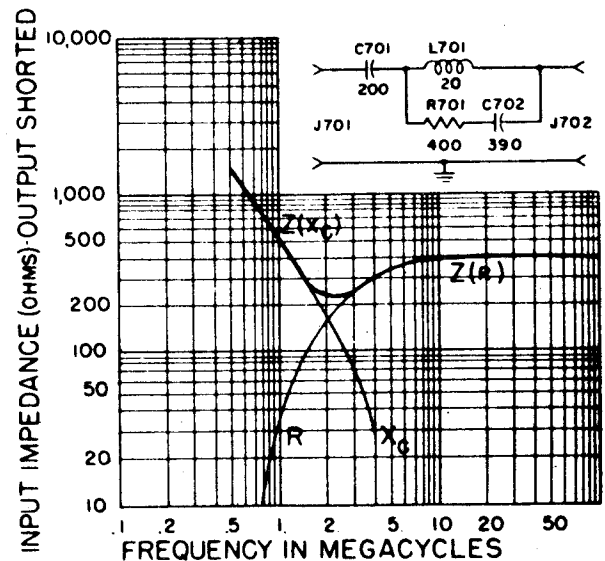

Figure 4-8. Schematic Diagram of the Antenna Simulator SM-35/URM-25 with Input Impedance Frequency Curve
(See figure 4-8).
c. It can be seen from figure 4-8 that the minimum impedance of the antenna simulator will be approximately 220 ohms at 2 mc. This impedance becomes much higher at lower frequencies and approaches 400 ohms at higher frequencies. In using the meter (M101) of the signal generator it should be realized that a 20 percent maximum error may be introduced at 2 megacycles. If greater meter accuracy is required when using the antenna simulator, the actual impedance of this unit should be calculated from figure 4-8 at the frequency, selected.
d. From the impedance curve (figure 4-8), it can be seen that the minimum impedance of the antenna simulator will be approximately 220 ohms. When using this unit, first connect one end of the Impedance Adapter MX-1487/URM-25D to the output cable (W104) and plug the other end of W104 into J102 on the signal generator. Using the auxiliary cable (W105), connect the antenna simulator to the impedance adapter. If necessary, the second auxiliary cable (W106) may then be used to connect the antenna simulator to the receiver under test.
is 20 mc, it can be seen from figure 4-8 that the series impedance of the antenna simulator will be approximately 400 ohms resistive. Make the necessary connections as indicated in paragraph 9 of this section. A meter indication of 10,000 microvolts represents an input voltage of 10,000 microvolts to the antenna simulator.
f. For accurate receiver output voltage indication it should be remembered that the total load impedance represented by the antenna simulator in series with the load of the instrument under test should be at least 500 ohms. From figure 4-8 it is apparent that the accuracy will be sufficiently good at frequencies above 5 mc. Below 5 mc, the impedance falls off to approximately 220 ohms and the receiver input load should be sufficiently high (approximately 280 ohms or greater) to maintain the accuracy.